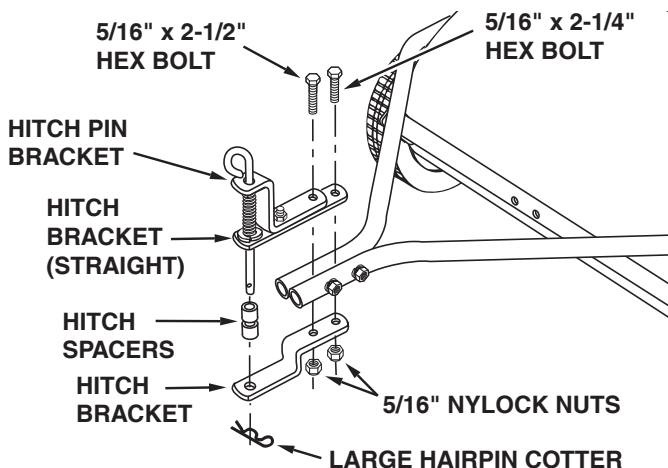

FIGURE 5
- Place the bent hitch bracket underneath the hitch tubes and place the straight hitch bracket with hitch pin on top of the hitch tubes. Fasten together using a 5/16" x 2-1/2" hex bolt (front), a 5/16" x 2-1/4" hex bolt (rear) and two 5/16" hex lock nuts as shown in figure 5. The bolts should straddle the front hitch tube bolt. **Do not tighten yet.**
- Assemble the two hitch spacers onto the hitch pin and secure the pin with the large hairpin cotter. See figure 5.